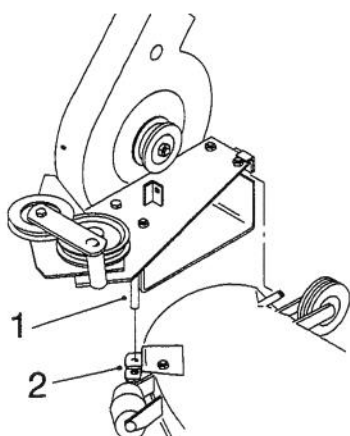

Figure 11
1. Install the blower assembly by inserting the pivot pin into the blower pivot support (Fig. 11).